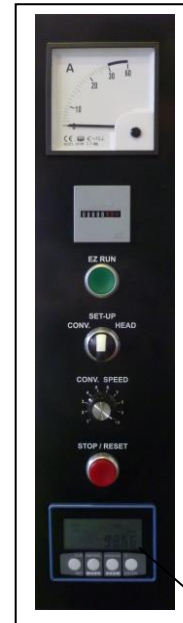

Figure 6
5. Press the Reset and Turn Drum Set-Up Switch first to check that the contact drum is rotating in the proper direction(counter clockwise for wood and clockwise for metal). Figure 6 or 18
1. Turn off belt tension switch and center the sanding belt , turn belt tension switch back on. Now turn the Head Set-Up switch to the right, oscillation adjustment is done while abrasive belt is running. (see Figure 6).